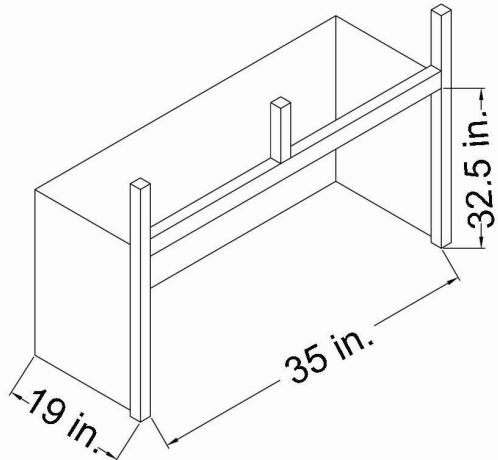

Figure 7 - Rough Opening for Installing in Wall
1. Frame in rough opening. Use dimensions shown in Figure 7 for the rough opening. If installing in a corner, use dimensions shown in Figure 8 for the rough opening. The height is 23 1/4 -in., which is the same as the wall opening above.